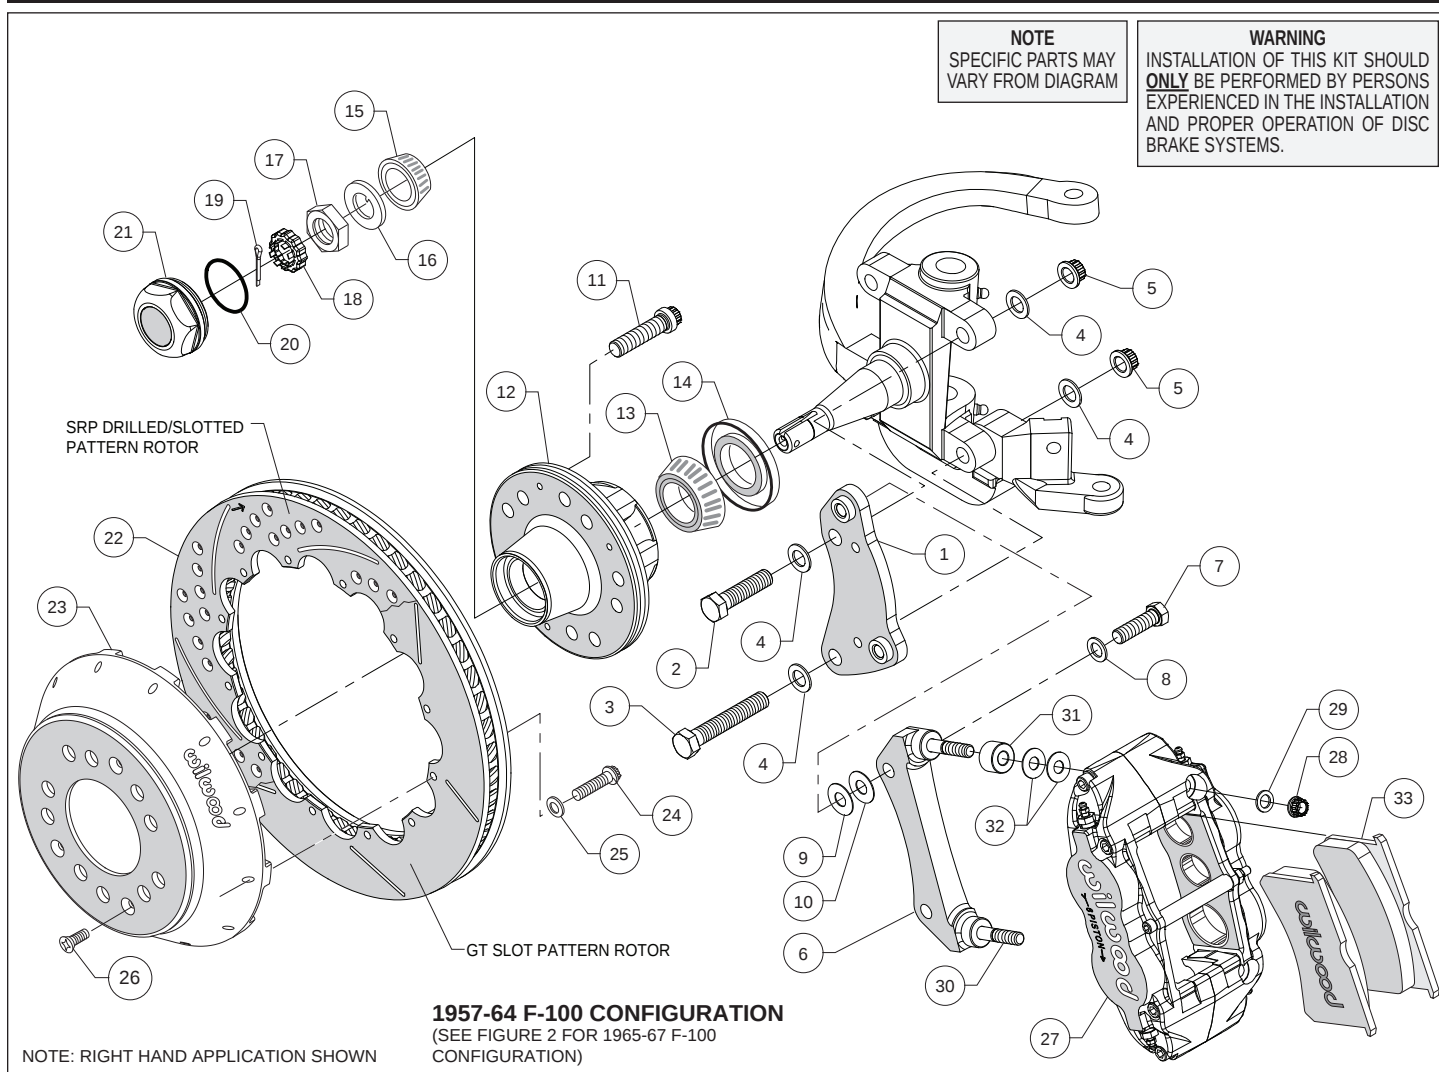
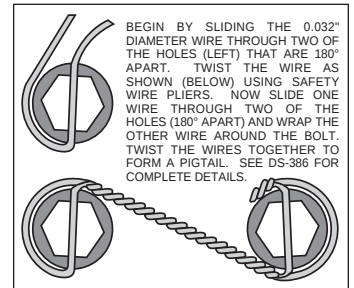
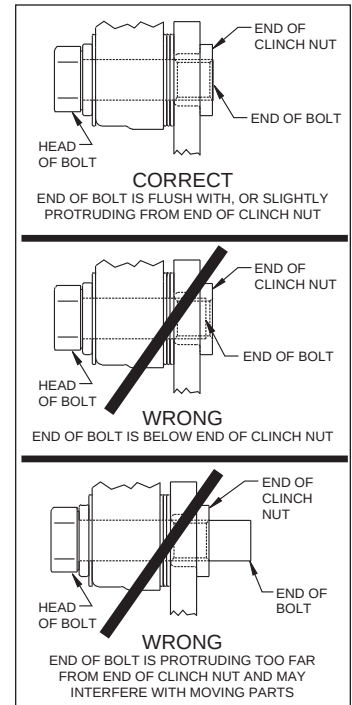

Figure 1. Typical Installation Configuration, Model Years 1957-1964
Figure 4. Safety Wire Diagram
Figure 5. Clinch Nut Engagement Diagram
Assembly Instructions (numbers in parenthesis refer to the parts list, on the preceding page and Figures 1 and 2). **CAUTION:** All mounting bolts must fully engage clinch nuts. Be sure to check that all bolts are either flush or protruding through flanged side of clinch nut after shimming, Figure 5.
- Orient the spindle bracket (1) as shown in Figure 1 or 2, and Photo 1, and install using bolts (2 and 3), washers (4) and nuts (5). Temporarily tighten the mounting bolts. Ensure that the flanged heads of the clinch nuts in the bracket are facing outboard, Photo 1. **NOTE:** The bracket must fit squarely against the mount bosses on the upright. Inspect for interference from casting irregularities, machining ridges, burrs, etc. Torque lock nuts (5) to 65 ft-lb.
- The caliper mount radial bracket (6) should initially be installed with clean, dry threads on the mounting bolts. Orient the bracket as shown in Figure 1 or 2, and Photo 2. Install onto the spindle bracket using bolts (7), and washers (8). Initially place one .030 thick shims (9) on each bolt between the radial and spindle brackets, Figure 1 or 2. Temporarily tighten the mounting bolts. Later, after the caliper alignment has been checked, the mount bolts will be secured using red *Loctite*® 271.
- Screw dust cap (21) into hub (12), Photo 8. Friction created by the o-ring (20) on the dust cap keeps it from unscrewing. **NOTE:** *The O.D. of the existing OEM spindle washer may be larger than the I.D. of the dust cap not allowing it to seat against the hub face. Therefore, use the spindle washer (16) supplied with the kit instead of the OEM washer.*
- Orient the rotor (22) and the hat (23) as shown in Figure 1 or 2 and Photo 9. Attach rotor to hat using bolts (24) and washers (25). Using an alternating sequence, apply red *Loctite*® 271 to the threads, and torque to 155 in-lbs. For an added measure of security, the bolts may be safety wired using standard 0.032 inch diameter stainless steel safety wire as shown in Figure 4. Refer to Wilwood's data sheet DS-386 (available at www.wilwood.com/Pdf/DataSheets/ds386.pdf) for complete safety wire installation instructions.
- NOTE:** *This kit contains distinct right and left hand calipers that must be mounted in a specific direction, as described below.* Lubricate the caliper mounting studs (30) with lightweight oil. Initially place one spacer (31) and two .035" thick shims (32) on each stud between the caliper and the bracket, as shown in Figure 1 or 2, and Photo 11. Mount the caliper (27) onto the bracket (6) using lock nuts (28) and washers (29), Figure 1 or 2. Ensure that the caliper is mounted so the largest pistons are at the rotor exit end of the caliper, in relation to the direction of rotor rotation. Temporarily tighten the lock nuts and view the rotor through the top opening of the caliper. The rotor should be centered in the caliper, Photo 12. If not, adjust by adding or